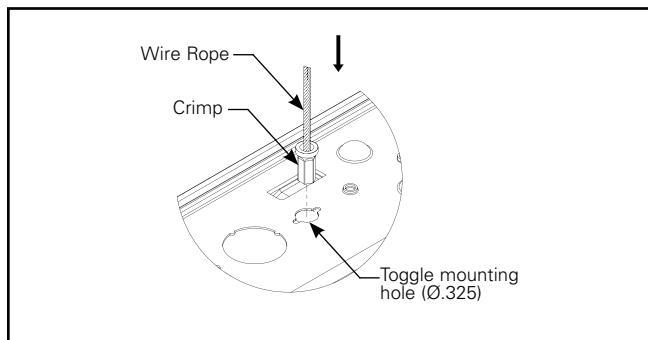

Figure 4.1.
- A. Insert wire rope with crimp nut into the hole (.35") of the channel (Figure 4.1).